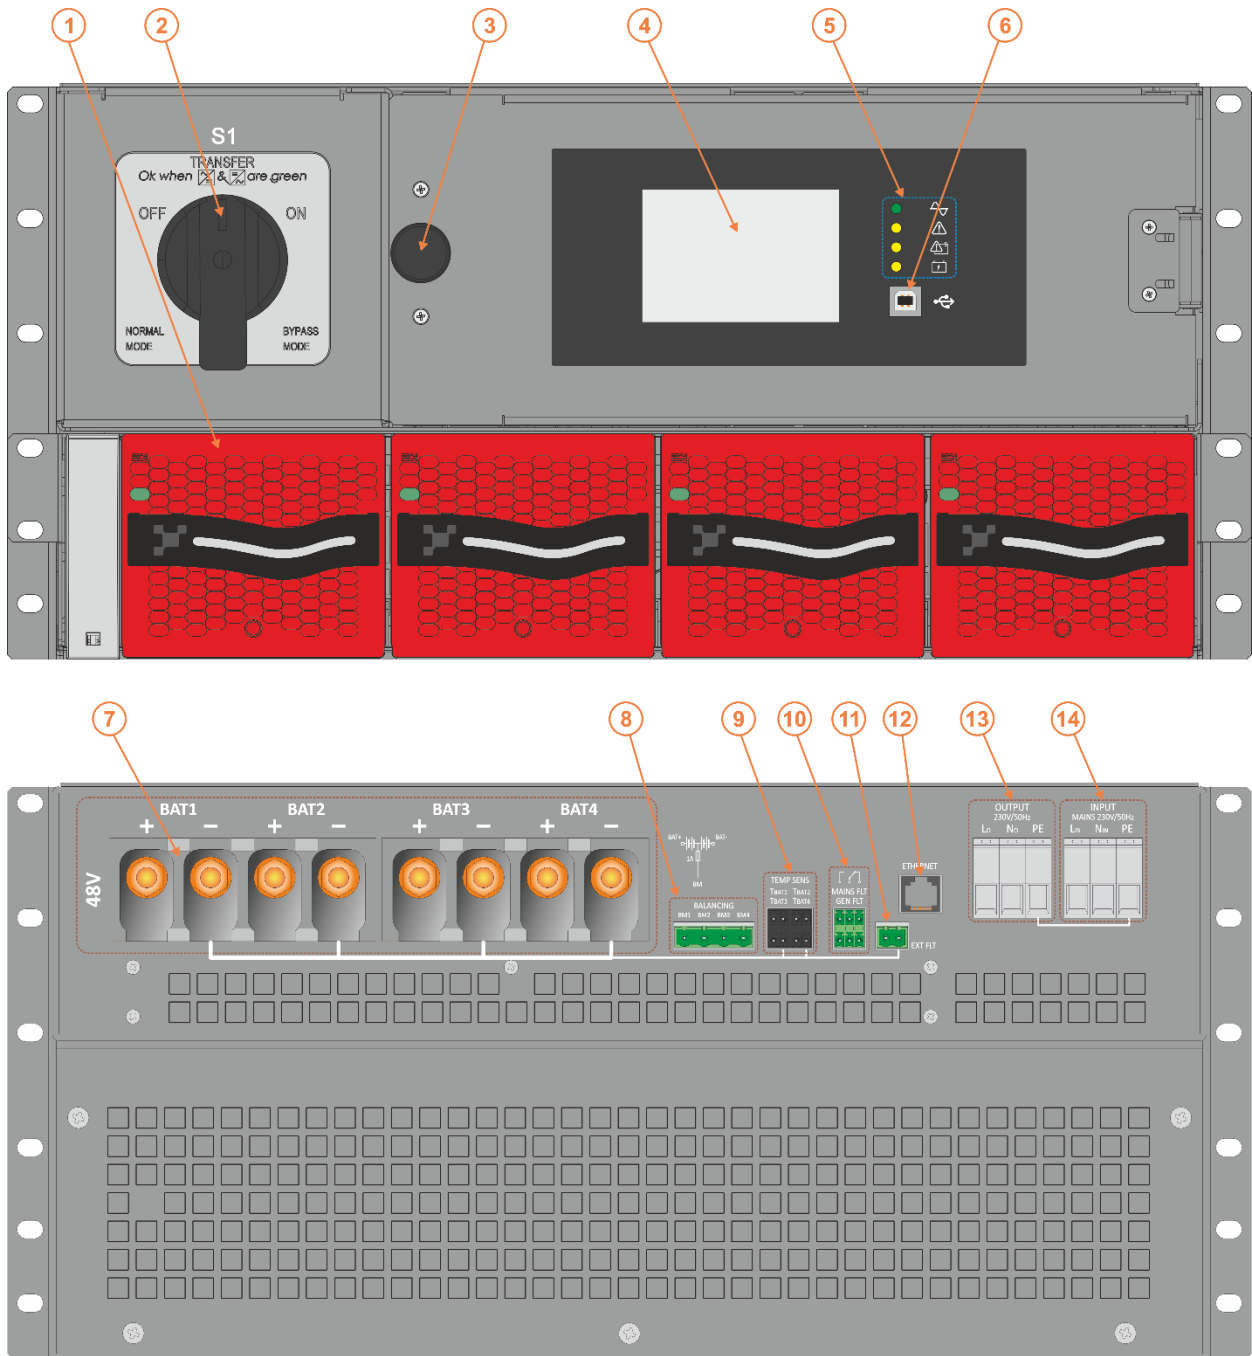

Fig.1. View of the front and rear panel of the ZDSO-230V PSU
There are overcurrent protections at the input and output of the PSU and in the battery circuit, which are located inside the PSU and are accessible to the operator after opening the bezel located at the front of the PSU (item 3 Fig.1)